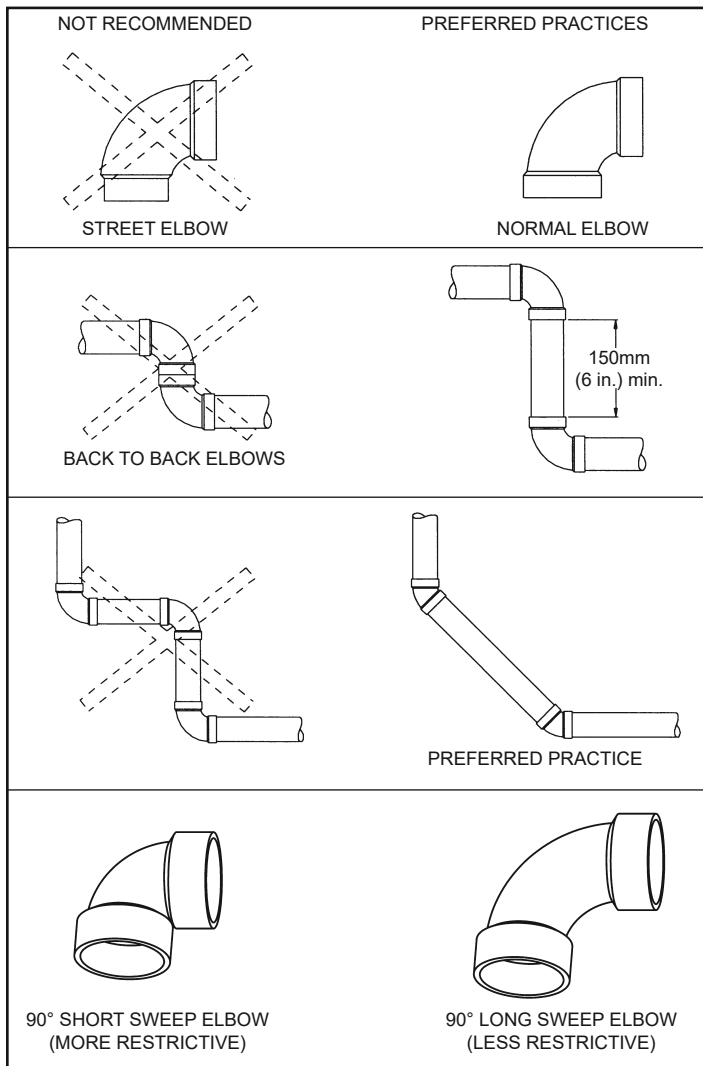

Figure 11
**Note:** The information provided in Figure 11 is intended as a guideline for good vent installation practices only and is not intended to restrict venting options beyond those restrictions established by the latest edition of the **"Natural Gas and Propane Installation Codes" B149.1** or any applicable local and provincial codes.
4. Avoid the use of 90 degree elbows "back to back" and do not use street elbows. Maintain a minimum 150mm (6 in.) straight section between elbows. Closely coupled and short radius elbows reduce the venting capacity. Figure 11 shows examples of vent pipe connections.